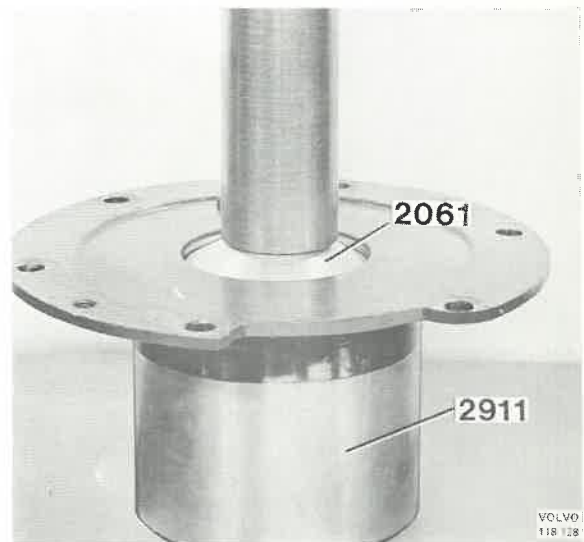

Fig. 92-64. Pressing out the bearing (drum)
27. Place the cover on 2911, see Fig. 92-64, and press out the bearing with 2001.